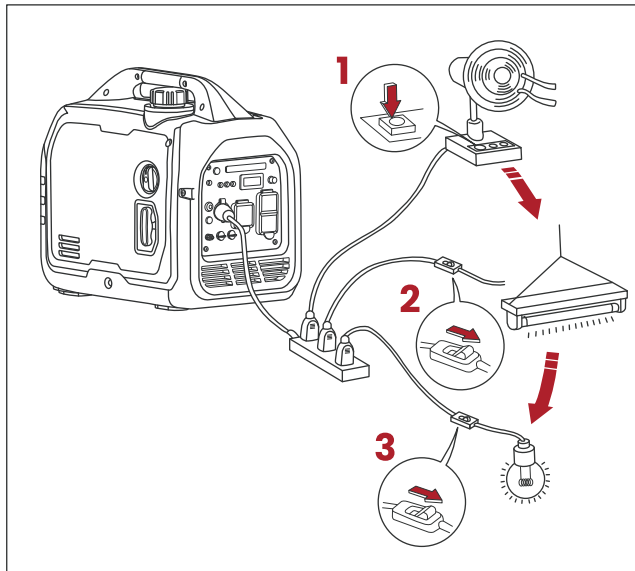

Fig.21
4. Before increasing engine speed, energy-saving switch must be switched to "OFF". If more than one load or electrical equipment is connected to the generator set, remember that the one with the highest starting load is connected first, and the one with the lowest starting current is connected last (see Fig.21).